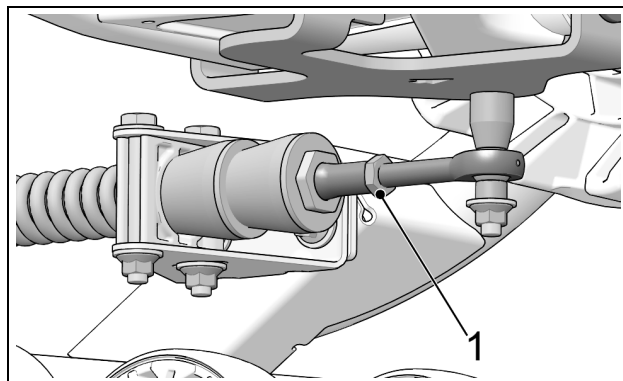

Figure 18
- Re-tighten jam nut (1) to 40 N•m [30 lb-ft] of torque when adjustment is complete. Figure 18.